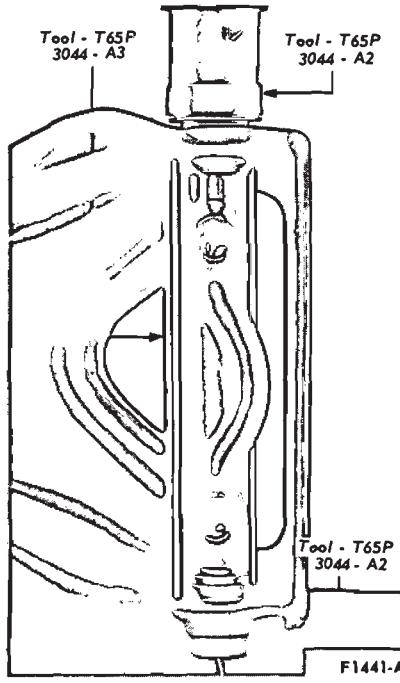

FIG. 17—Installing Upper Arm Shaft Bushings
5. Position the shaft and bushings to the upper arm and install the bushings and inner shaft in the upper arm as shown in Fig. 17.